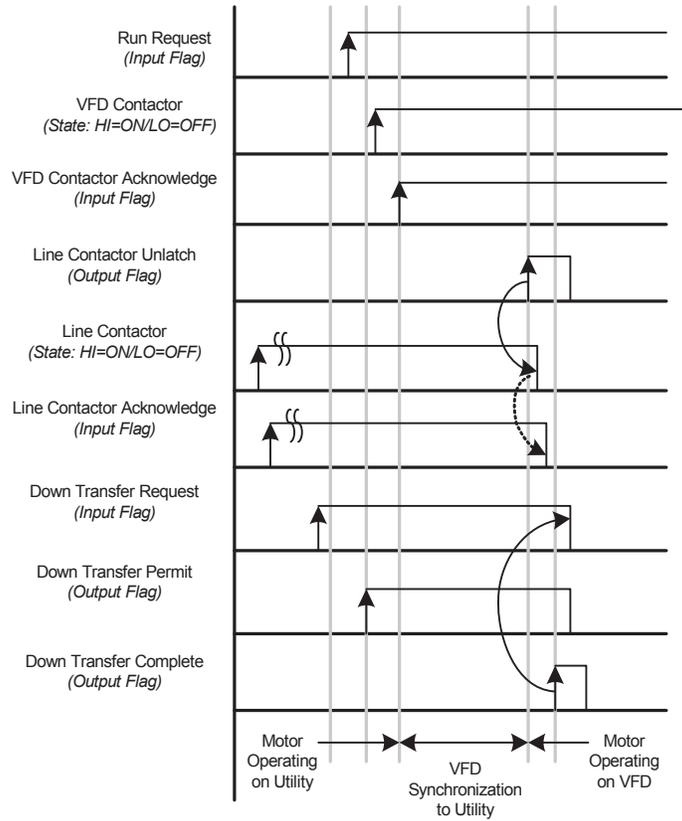

Figure 5-25: State Changes during Down Transfer Sequence
1. The Down Transfer process (refer to Figure 5-25) consists of the following steps. The line contactor is assumed to be closed at the beginning of this procedure.